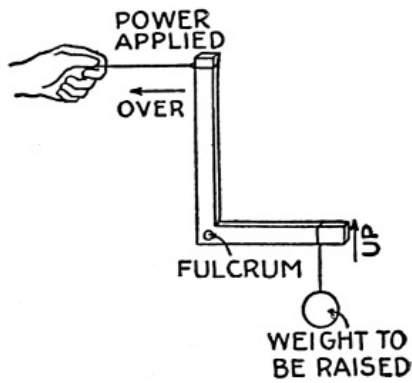
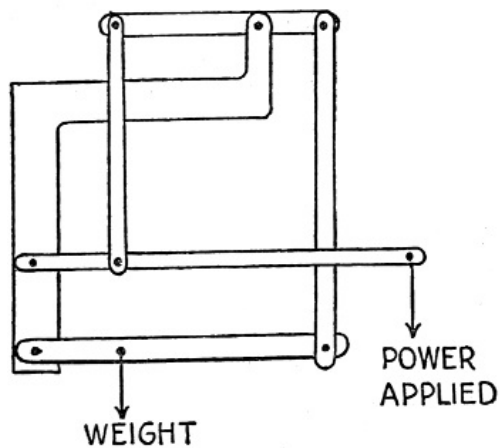

FIG. 40. A BENT LEVER
FIG. 41. A COMPOUND LEVER
(3) Where the power is applied between the load and the fulcrum as shown at A, Fig. 39; the foot treadle of a jig saw and sugar tongs are levers of this class. See B, Fig. 39. Then there is the *bent lever*, as shown in Fig. 40, where the power and load do not act parallel with each other, and the *compound lever* which takes the place of a single long lever as shown in Fig. 41, and which is used in large platform-scales.